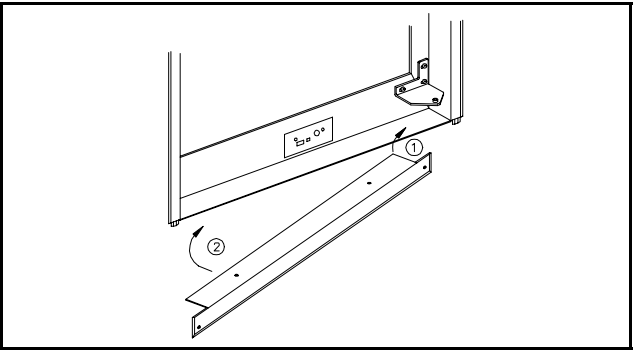

Figure 5
- 1. Install the lower flange by maneuvering it under and behind the bottom hinge plate, as shown in Figure 5 (the hinge will be located on either the right or left side, depending on door swing preference).